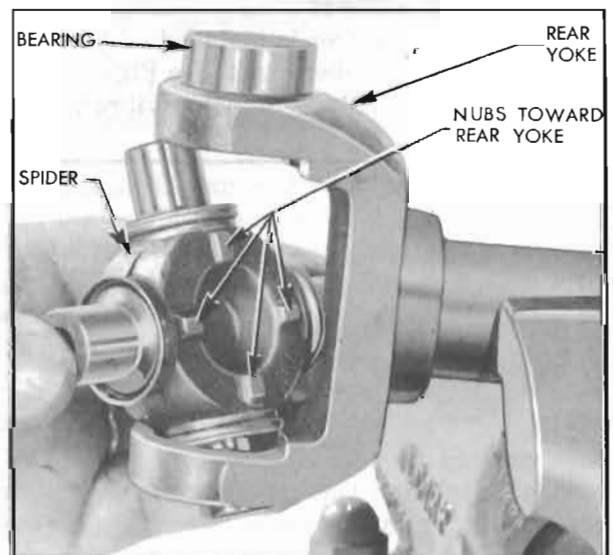

Figure 6-13—Installing Spider in Rear Yoke
2. Position spider in partially installed bearing. See figure 6-13. NOTE: Spider must be installed so locating lugs are facing toward propeller shaft tube.